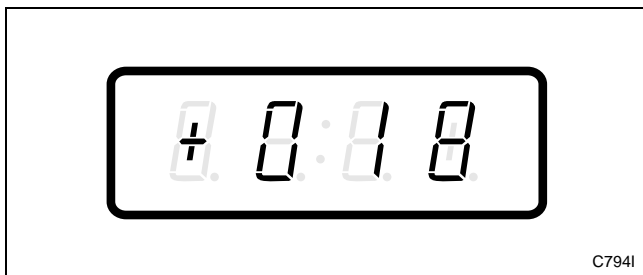

Figure 48
3. Press the DELICATES (+) or the COLD (-) keypad to scroll through the programmable options until “+018” appears in the VFD. Refer to *Figure 48*.